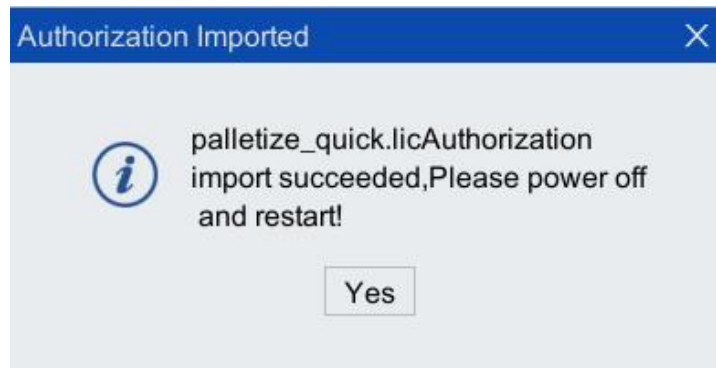

Figure 2-12 Interface for selecting the required authorization file
- Step4. After the authorization is successful, a dialog box as shown in Figure 2-12 will pop up, and click <Yes> to complete the authorization.